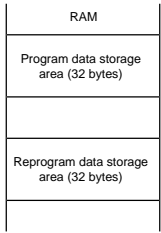

Figure 18.11 Program/Program-Verify Flowchart
Follow the procedure shown in the program/program-verify flowchart in figure 18.11 to write data or programs to flash memory. Performing program operations according to this flowchart will enable data or programs to be written to flash memory without subjecting the device to voltage stress or sacrificing program data reliability. Programming should be carried out 32 bytes at a time.
Clear the P bit in FLMCR, then wait for at least (α) μs before clearing the PSU bit to exit program mode. After exiting program mode, the watchdog timer setting is also cleared. Then the operating mode is switched to program-verify mode by setting the PV bit in FLMCR. Before reading in program-verify mode, a dummy write of H'FF data should be made to the addresses to be read. The dummy write should be executed after the elapse of (γ) μs or more. When the flash memory is read in this state (verify data is read in 16-bit units), the data at the latched address is read. Wait at least (ϵ) μs after the dummy write before performing this read operation. Next, the originally written data is compared with the verify data, and reprogram data is computed (see figure 18.11) and transferred to RAM. After verification of 32 bytes of data has been completed, exit program-verify mode, wait for at least (η) μs , then determine whether 32-byte programming has finished. If reprogramming is necessary, set program mode again, and repeat the program/program-verify sequence as before. However, ensure that the program/program-verify sequence is not repeated more than (N) times on the same bits.